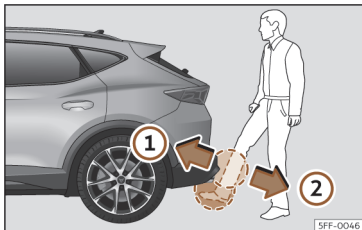

Fig. 85 Rear lid with sensor-controlled opening (Easy Open).
- With a brisk movement, bring your foot and lower leg as close as you can to the bumper. The lower part of the leg needs to be close to the upper sensor area and your foot must be close to the lower sensor area >>> **Fig. 85 ①**.
- Quickly remove your foot and lower leg from the sensor areas >>> **Fig. 85 ②**. The rear lid will be automatically opened.